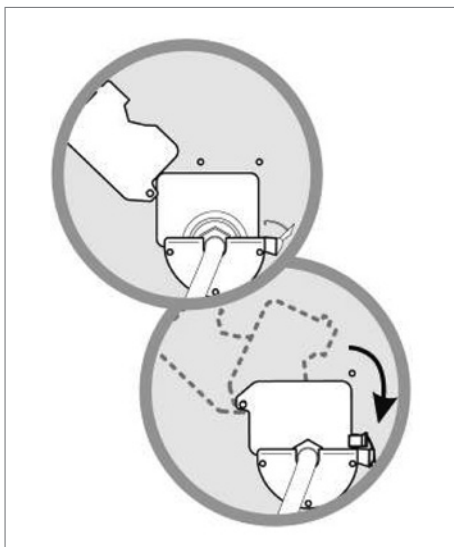

Fig. 11
- While holding the bottom port firmly, close the mobile jaw of the gate. Ensure that the groove of the bottom port is captured by both halves of the gate to prevent movement of the bottom port during filling (see Fig. 11).
5. Unlatch and open the bottom gate (see Fig. 11).